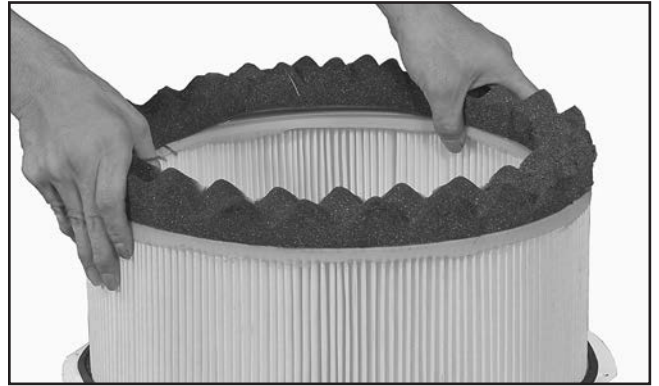

Figure 55. Removing filter.
6. Carefully lift the filter out of the canister assembly, as shown in **Figure 55**.